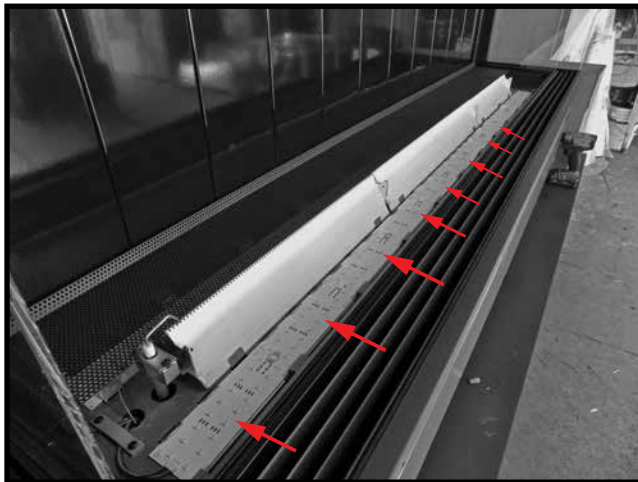
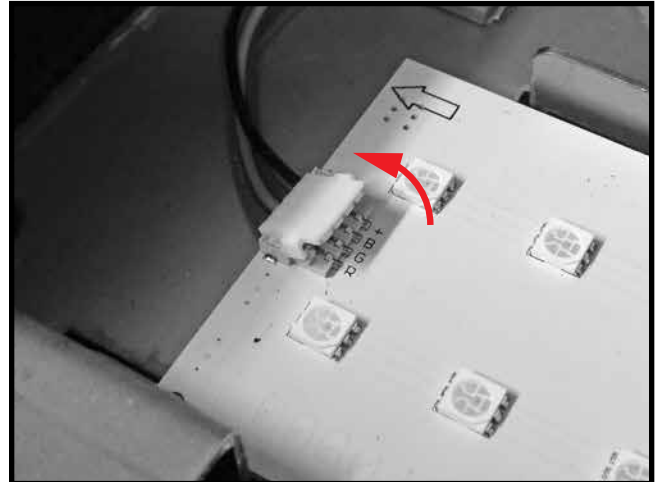

Figure 52: LED individual sections joined together.
Figure 53: LED connector.
There are two rows of LED lights in this fire feature, one row on each side of the burner. Each row of LED lights is made of individual LED sections which can be joined together using bridge connectors to achieve the desired row length (Figure 52). Each row of sections also has its own main electrical connector (Figure 53).
9. Reconnect the main electrical connector as shown in Figure 53.